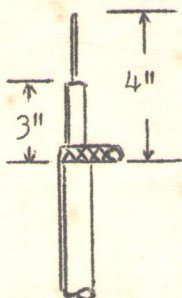
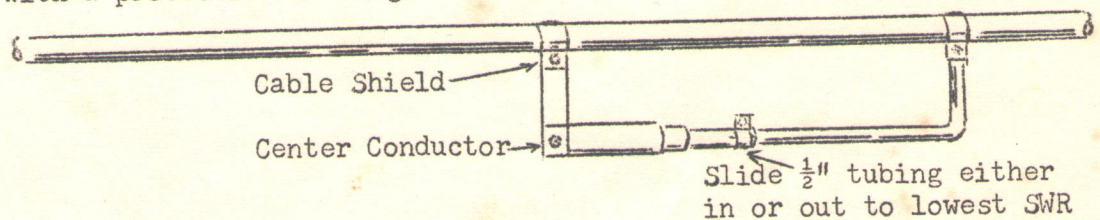

FIGURE 3
FIGURE 4
FEED CABLE: Prepare the end of the coax as shown in Figure 3. Connect the feed cable center wire to the terminal on the flattened end of the gamma condenser. Connect the cable shield to the terminal on the element insulator clamp, Figure 4. The gamma match is preset at the factory for center band and 52 ohm coax. However, because of variations between locations it should be adjusted to your sight by following the steps outlined below.
- (1) Insert a standing wave bridge in the coaxial feed line.
- (2) Set generator or transmitter to desired frequency.
- (3) Slide $\frac{1}{2}$ " tubing of gamma match either in or out of insulator to lowest SWR reading, Figure 4.